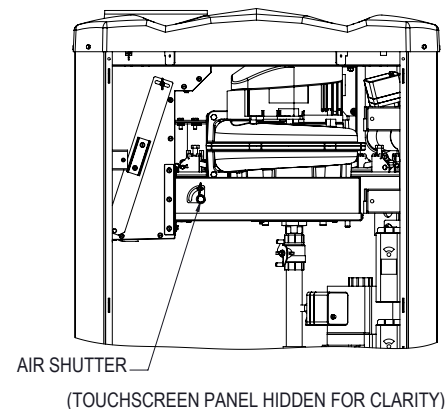

Figure 93. Air Shutter Adjustment
3. If the CO₂ values and air pressure values are outside of the tolerances noted, the air shutter should be adjusted slightly to bring the values back into the nominal range. See **Figure 93** for location of the air shutter (directly behind the touchscreen panel). Close the shutter slightly to increase the negative air pressure or raise the CO₂ values. Open shutter